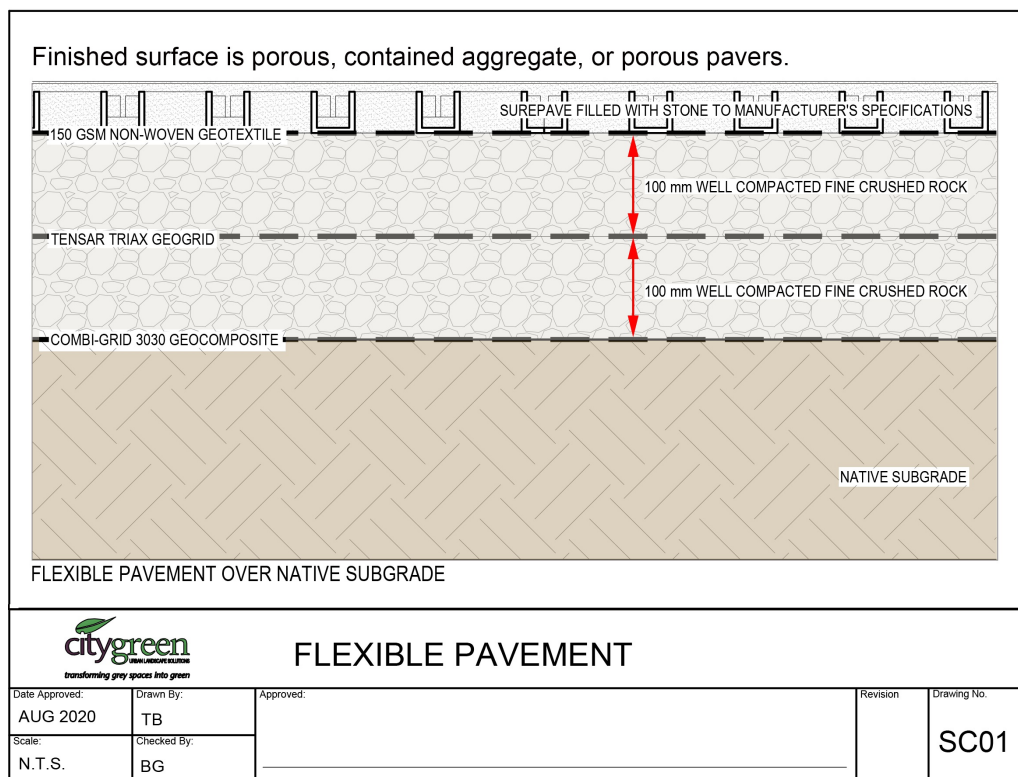

Figure 4. Detail of the floating drive required by tree 6.
- 6 In order to assist the protection of the roots of tree 6 the new driveway needs to be porous and be floated over the ground so that there is no root damage. I have shown the required specification in Figure 4.